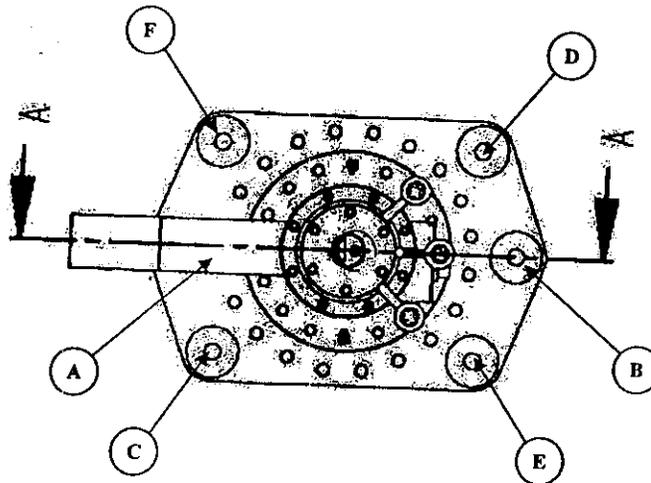

Figure 1.32.2 The specified sequence for tightening the Belleville washer assemblies.
1.29.2 Tighten the 6 loading nuts finger-tight. With adjustable parallels, measure and record the gap 'y' indicated in Figure 1.31a between Item 5 (Belleville washer holder upper half) and the power lead top flange at the 6 locations specified in Figure 1.32.2. Units are mm.
1.29.4 Using the sequence A through F in Figure 1.32.2, sequentially tighten the loading nuts 1/4 turn until the total compression is 1.8 mm at each of the six locations. As each loading nut is tightened 1/4 turn, check off the appropriate line.